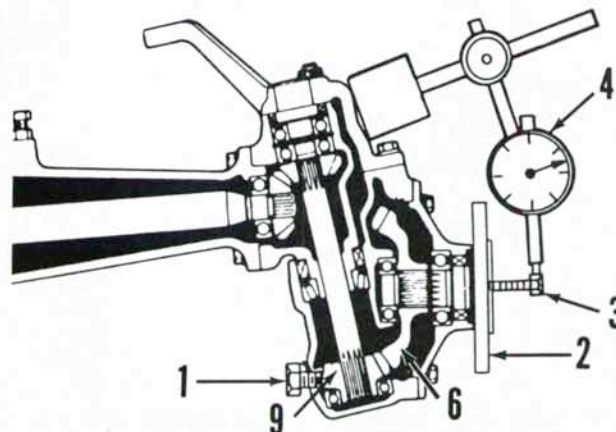

Fig. 16—Check bevel gear (6) to pinion gear (9) backlash using a dial indicator (4) as shown. Refer to text.
It is suggested that backlash between bevel gear (6) and pinion gear (9) be checked prior to disassembly to determine if gears or bearings are excessively worn. Thread a long bolt (1—Fig. 16) into the oil drain plug hole until it contacts pinion gear to prevent the gear from moving. Install a bolt (3) in wheel hub flange (2) and position a dial indicator (4) against head of bolt shown. Rotate hub back and forth and note dial indicator reading. Normal backlash is 0.20-0.40 mm (0.008-0.016 inch). If backlash exceeds 0.50 mm (0.020 inch), renew bearings or gears as necessary.